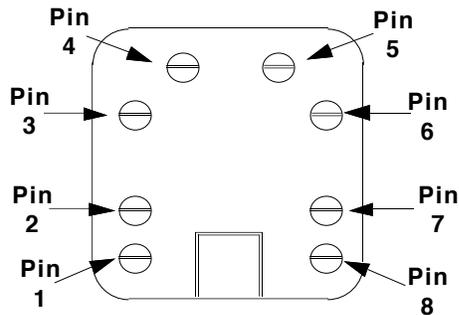

Figure 5 - RS-232 Breakout Box
The RS-232 connector is an 8-pin modular phone type connector, marked COM on the rear panel of the unit. The breakout box that is connected to this port has the pinouts shown in Table 2. See figure 5 for the pin locations on the breakout box.
6. Wire the breakout box as diagramed in Figure 5.